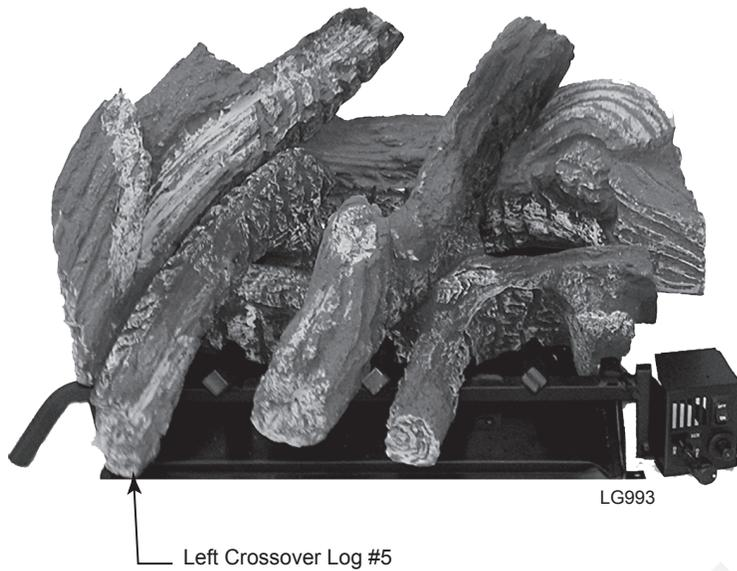

Figure 32
5. Place left top crossover log (#5) against left top log. *Figure 32*